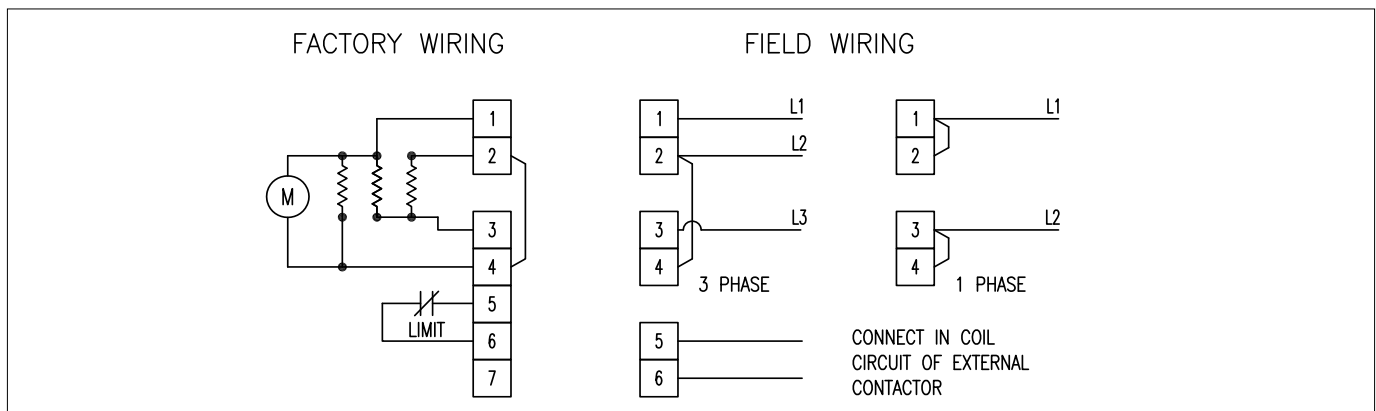

Figure 2A – RGE Series 2–10 kW wiring schematic with hi-limit option. 208 V and 240 V models.
If the wiring schematics of Figures 2A–2F, page 5–7, do not match your configuration, check the inside access panel of the unit for specific wiring schematic. Alternatively, all wiring schematics are available online at: [www.ruffneck.com](http://www.ruffneck.com).
1. To operate heater, ensure power supply is properly connected as specified in the wiring schematic (refer to Figures 2A–2F, page 5–7).